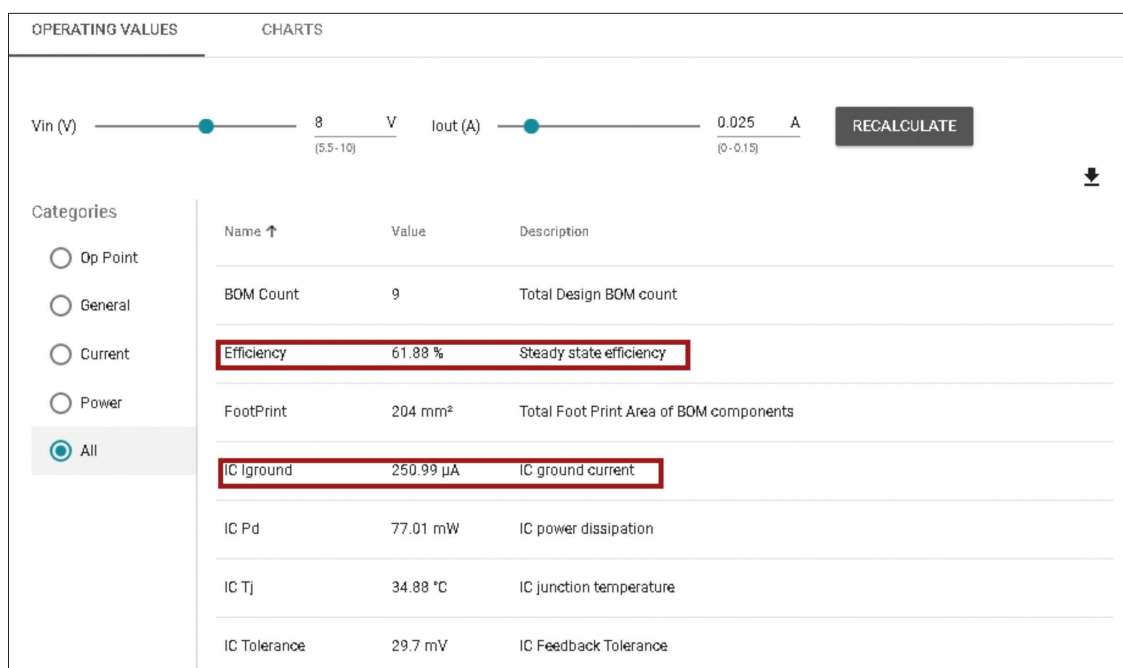

Figure 5.
5. Read the values  $I_{OUT\ OP}$ ,  $I_{IC\ I_{ground}}$ ,  $V_{OUT\ Actual}$ , and **Efficiency** from the **Operating Values** table, see **Figure 5** and enter them into **Table 1**. Calculate  $I_{IN\ AVG}$  from the equation and enter into **Table 1**. Then calculate efficiency from the equation using the **WEBENCH Operating value table** below and enter that into **Table 1** and compare that to the efficiency read from the **Op Vals** table. You may see a slight difference and this is due to the fact that **WEBENCH** uses  $V_{OUT\ Op}$  to calculate efficiency and we will use the  $V_{OUT\ Actual}$  voltage in our equation.